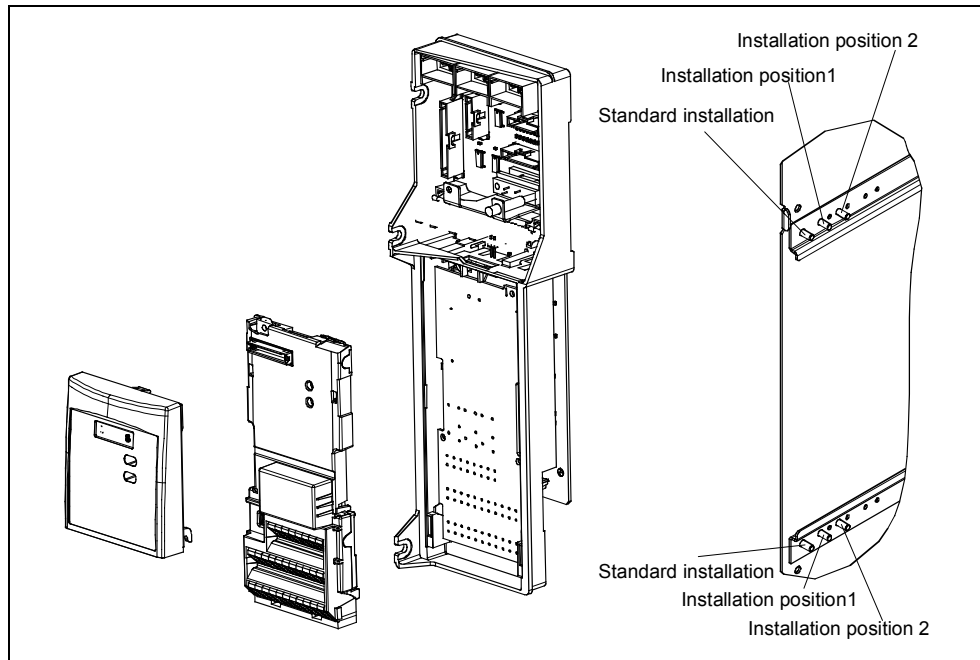

Figure 2-7 Options for the electronic box
- Screw on electronic box in correct installation position as shown in Figure 2-7